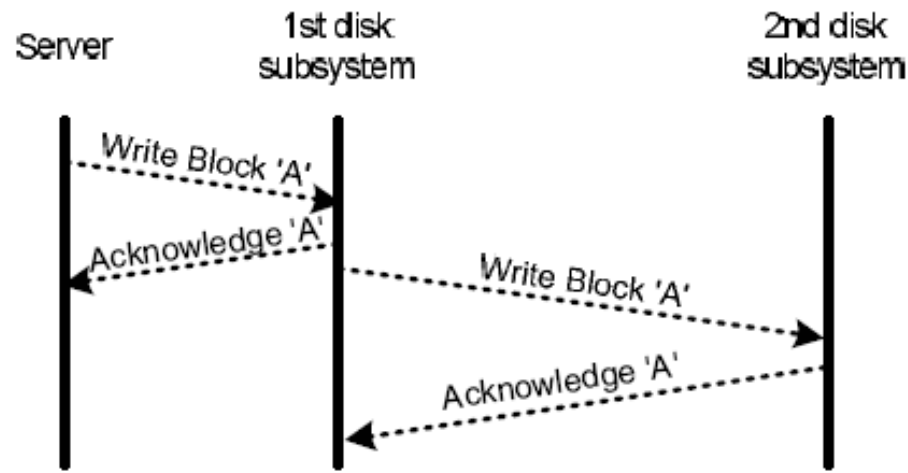

Figure 2.21 In asynchronous remote mirroring one disk subsystem acknowledges a write operation as soon as it has saved the block itself
- Figure 2.21 illustrates the data flow in asynchronous remote mirroring.